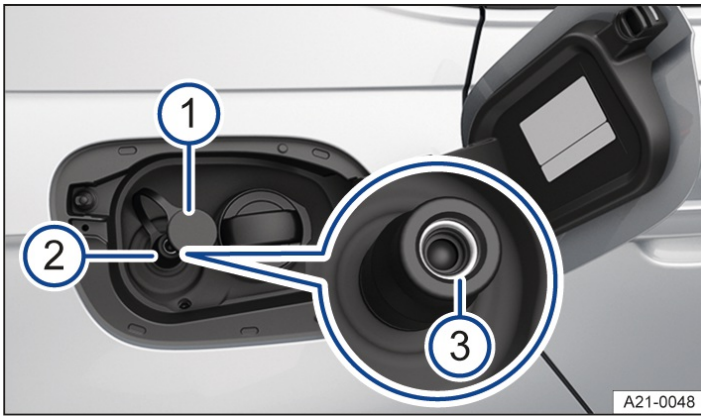

Fig. 1 Behind the tank flap: gas filler neck.
2. Remove the closure cap from the gas filler neck → Fig. 1 ①.
3. Fit the filling coupling on the gas filler neck → Fig. 1 ②.
6. After removing the filling coupling, check whether the sealing ring of the gas filler neck is present. Place the seal back in the gas filler neck → Fig. 1 ③.
7. Press the closure cap → Fig. 1 ① onto the gas filler neck → Fig. 1 ② and close the tank flap.